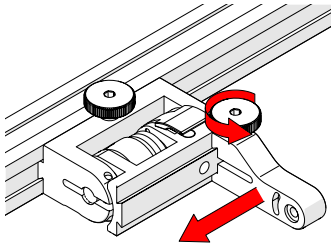

Fig. 166 - Position swing arm
5. Loosen the swing arm knob and slide the swing arm to the opposite end of the probe holder bracket (*Fig. 166*) or the preferred position. Tighten the swing arm knob.